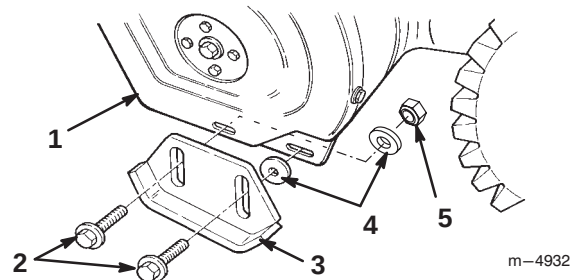

Figure 17
- Remove the two flange bolts and flat washers that secure the ends of the scraper to the side plates (Fig. 17).
- Insert a washer *between each skid and the side plate* (Fig. 17). Do not tighten the bolts.
- Insert a washer and a locknut *behind (on the inside of) the side plate* (Fig. 17). Do not tighten the bolts.